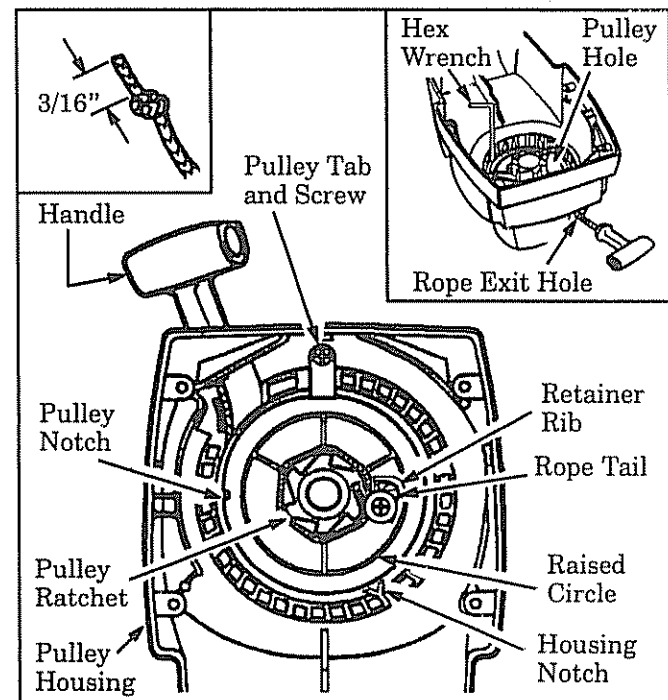

Figure 20
9. Hand turn the pulley clockwise as far as it will go. Then, turn the pulley counterclockwise until the pulley notch is aligned with the housing notch. Figure 20 . Next, turn the pulley one complete turn counterclockwise until the notches are aligned again.
10. Insert the small hex wrench into the hole formed by the notches to hold the pulley in position. Figure 20 (inset—upper right).
14. Insert one end of the rope through the handle and secure with a knot. Leave a 3/16" pigtail behind the knot. Figure 20 (inset—upper left).
15. Insert the other end of the rope through the rope exit hole into the inside of the housing, into the pulley and up through the pulley hole. See Figure 20 (inset—upper right).
18. Hold rope taut at the rope exit hole and remove the hex wrench. Figure 20 (inset, upper right).